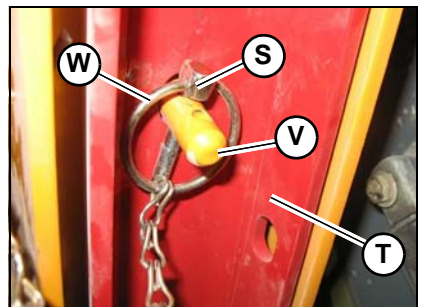

Figure 13 – Lift Arm Support Storage Position
5. Have an assistant raise lift arm support (T, Figure 13) until it contacts the lift arm. Reinstall lynchpin (S) through post (V) on the lift arm to secure lift arm support (T) in the storage position.
6. Fold lynchpin ring (W) over post (V) to lock lynchpin in place.